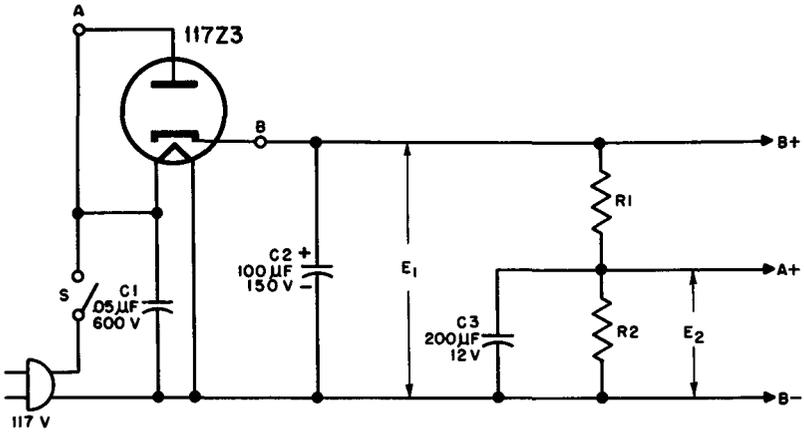

Fig. 7-3. A power supply used for converting a battery portable to permanent ac-dc operation.
Figure 7-3 shows a typical power supply that may be used with slight modifications in most battery-only sets for conversion to ac-dc operation. E_i is the plate supply (approximately 90 volts), which
For the following steps refer to the circuit shown in Fig. 7-3.
For the following steps refer to Fig. 7-3 (although a 117-volt, rather than a 35-volt tube is shown, the reference points are the same).
- f. Insert the dropping resistor in the filament circuit. In Fig. 7-3 this new dropping resistor would replace $R1$. (In this application, $R2$ does not exist as such, but represents the resistance of the series filament string.)